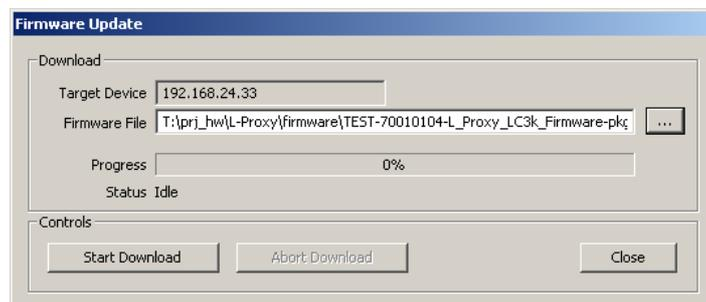

Figure 149: Firmware Update dialog of the L-Proxy Configurator.
6. This opens the Firmware Update dialog as shown in Figure 149. Click on the button "..." and select the firmware image ("lproxy_lc3k_3_1_0_primary.dl").